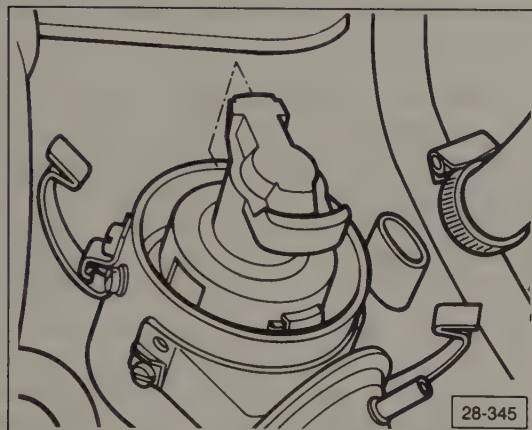

Fig. 5-4. Distributor rotor aligned with No. 1 cylinder mark on distributor housing.
1. Rotate the engine by hand until the distributor rotor tip is aligned with the No. 1 cylinder Top Dead Center (TDC) mark on the distributor housing, as shown in Fig. 5-4.
3. Using a new sealing washer or O-ring, install the distributor. Align the rotor with the distributor housing, as shown in Fig. 5-4 above. Be sure that the distributor housing is seated firmly and that the distributor shaft engages properly.